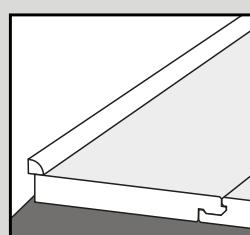
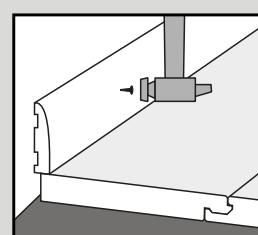

Fig. 8
Fig. 9
10. Once the floor is installed, remove the spacers; sweep the floor with a soft brush. Fix the skirting/base boards or suitable edge trim (available from your local distributor) to cover the expansion gaps. These should be attached to the wall and not the floor, such that the product remains free to expand (Fig. 8 & Fig. 9).